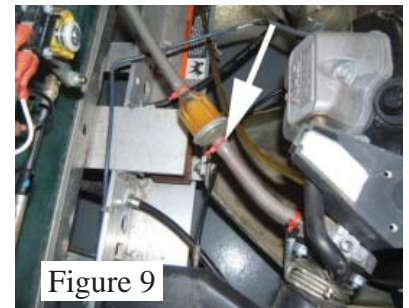

Figure 9
3. Disconnect the fuel line at the filter and plug line to prevent a fuel spill. (See Figure 9).